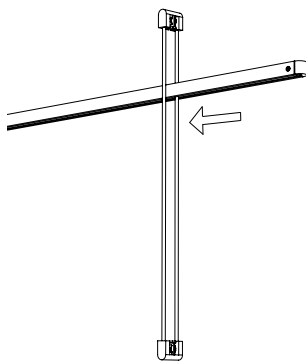

Fig. 4
1. Pass one end of the Parallel Power Bar Hanger over the end of a Power Bar. (Fig. 4)